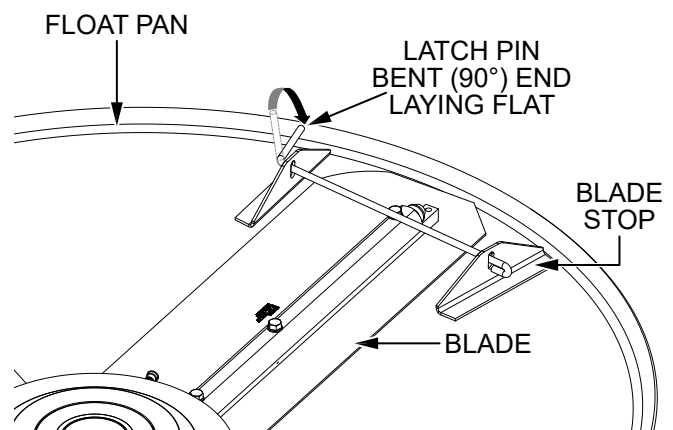

Figure 92. Latch Pin Placement
4. After it has been routed through the blade stop holes, rotate the latch pin so the end that is bent approximately 90 degrees lays flat on the surface of the float pan. See Figure 92.